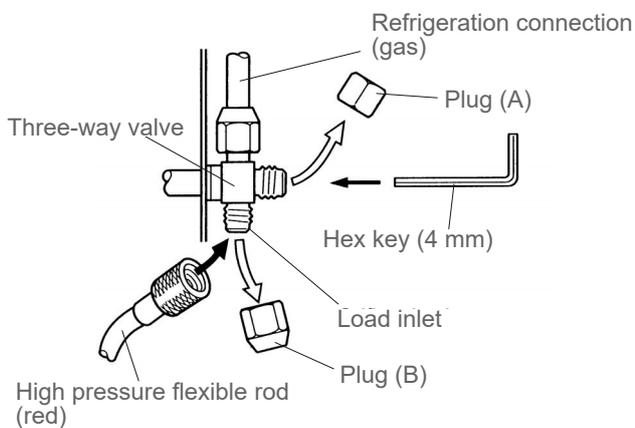

fig. 44 - Connecting the flexible rod to the gas valve
- Remove the protective plug (B) from the load inlet (Schrader) on the gas valve (large diameter).
- Connect the high-pressure flexible rod of the Manifold to the load inlet (fig. 44).